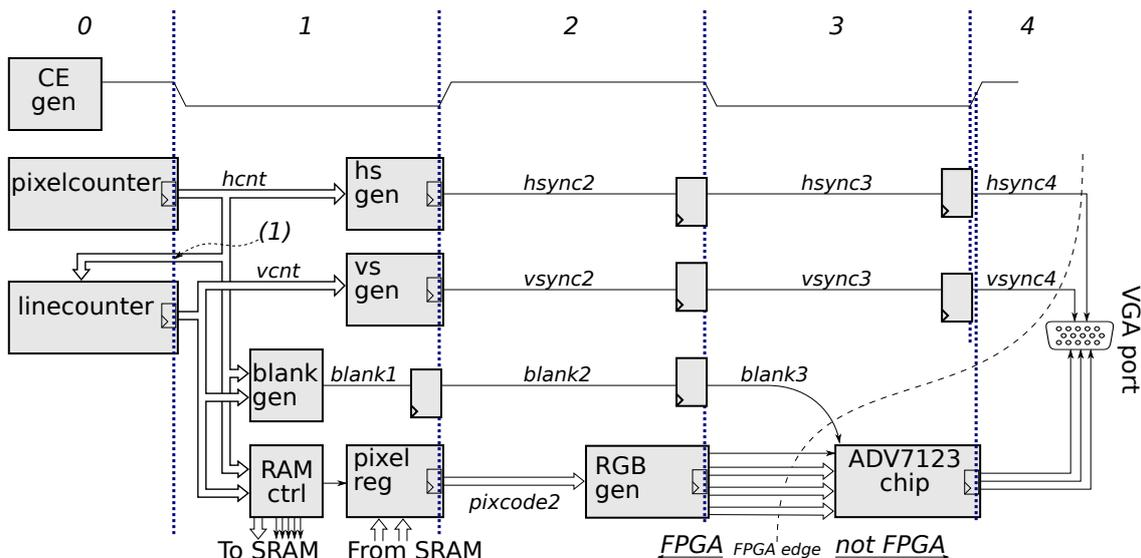

Figure 10: The pipelining of the system, as a combined block diagram and timing diagram.
Figure 10 illustrate how our system is divided into four stages (one clock cycle per stage), meaning the output to the VGA port is four clock cycles later than our counters. Note that RGB_gen outputs when CE is high (that is, outputs just around the falling flank of CE). This guarantees that it’s output is stable around the CE rising flank, used to clock the ADV7123 chip.
As mentioned before, there is an exception/problem in Fig. 10, pointed out with (1).